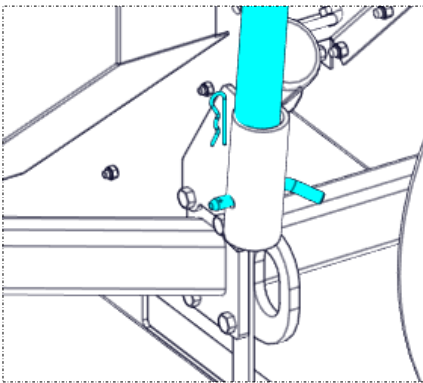

Figure 4.12
- 1) Remove the lever pipe from the holder on the front of the mill by removing the hair pin and bent pin (Figure 4.12).